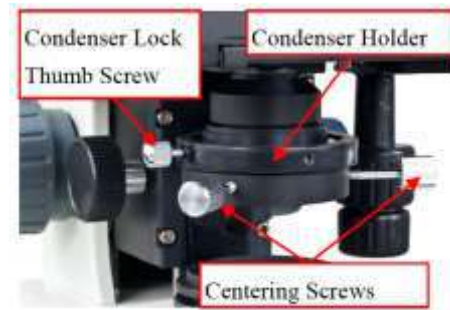

Fig.8
- Loosen the condenser lock thumb screw, pull down the condenser and take it off, insert the dry darkfield condenser in, and tighten the condenser lock thumb screw (See Fig. 8).